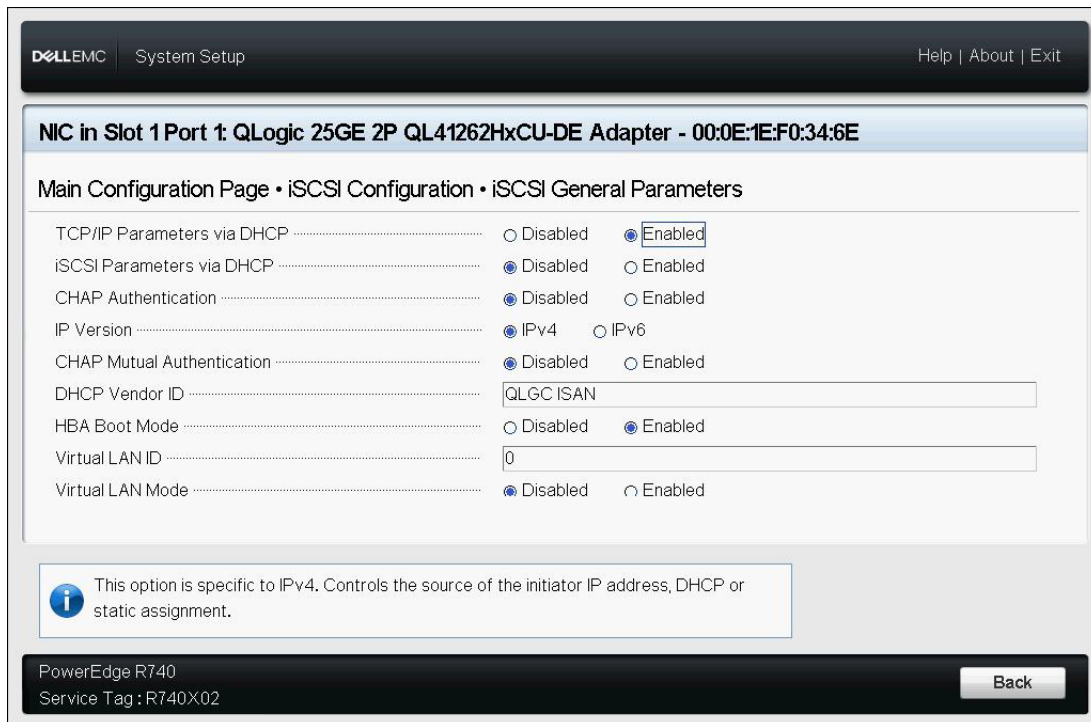

Figure 5-11. iSCSI General Parameters
- iSCSI General Parameters** (Figure 5-11 on page 70)